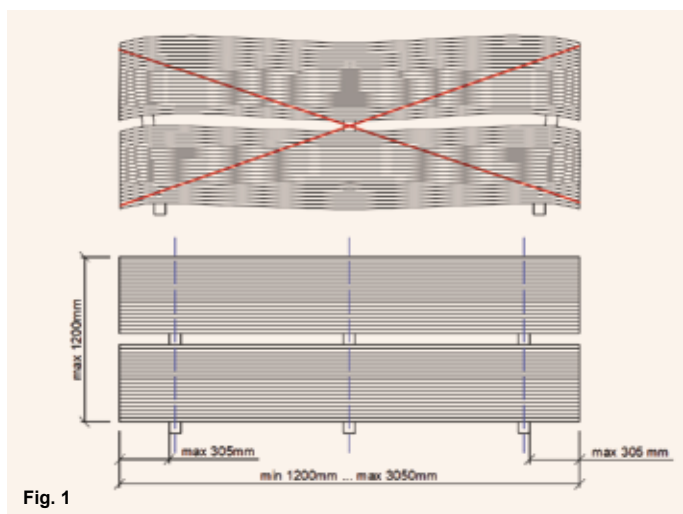

Fig. 1
**VMG Lignum Board** should be stacked horizontally on wooden battens (100 x 80 mm). Wooden battens should be of the same dimensions and spaced no further than 950 mm apart. At the edges, **VMG Lignum Board** should not project from the last wooden battens by more 305 mm. Wooden battens should be vertically aligned to avoid damage (Fig. 1).